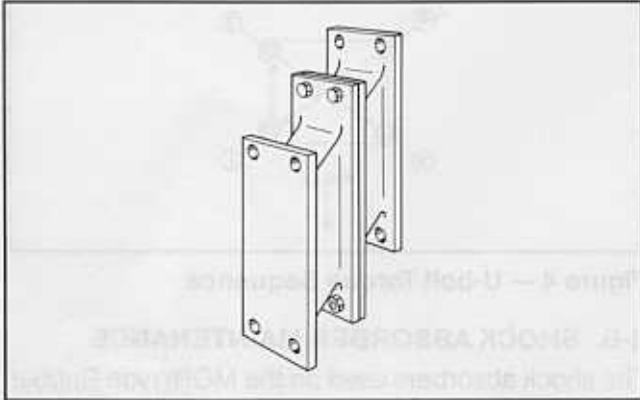

Figure 5 – Rubber Spring Assembly
The rubber spring assembly is actually two (2) individual rubber springs with the 5.0 x 11.0 or 6.50 x 11.0 steel plates bolted back-to-back (Figure 5). If only one spring in the assembly is defective, it is necessary to replace only the defective individual rubber spring—not the entire assembly.